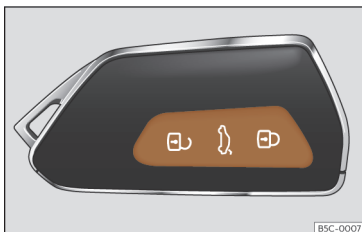

Fig. 74 Remote control key: keys.
- Lock: press the  >>> **Fig. 74** button.